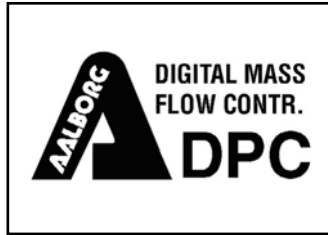

Figure 6: DPC first Banner Screen
Initially, after the power is first turned on, the Banner Screen is shown for 2 seconds (see **Figure 6**), then device firmware and EEPROM database revisions will be displayed on the first line, communication interface type and hexadecimal address value on the second line, Communication Port baud rate on the third line, and Modbus hardware status and decimal address value on the fourth line (see Figure 5). These are shown for another 2 seconds. Subsequently, the actual process information (PI) is displayed.